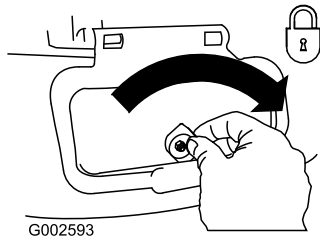

Figure 37
**Important:** Lock the side discharge door after you close it (Figure 37).